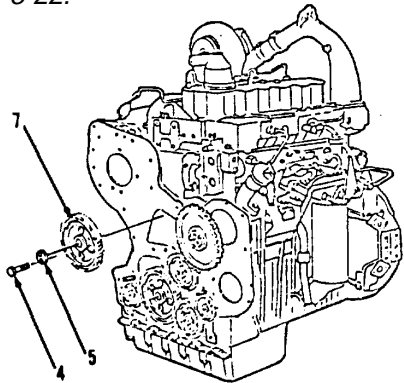

Figure 3-21.
- 8. Install gear (7, Figure 3-21).
- 9. With finished side of plate (5) toward gear (7), install plate (5) and two bolts (4).